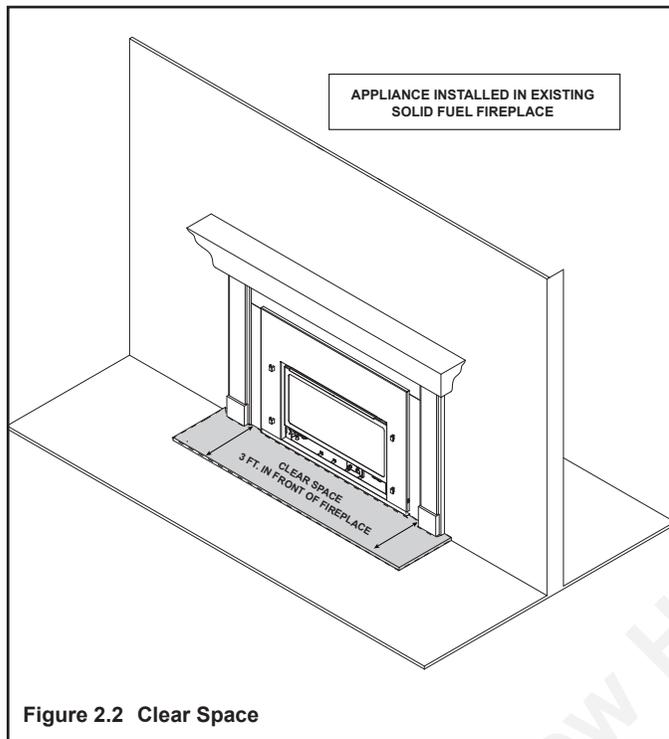

Figure 2.2 Clear Space
**WARNING! DO NOT** place combustible objects in front of the fireplace or block louvers. High temperatures could start a fire. See Figure 2.2.